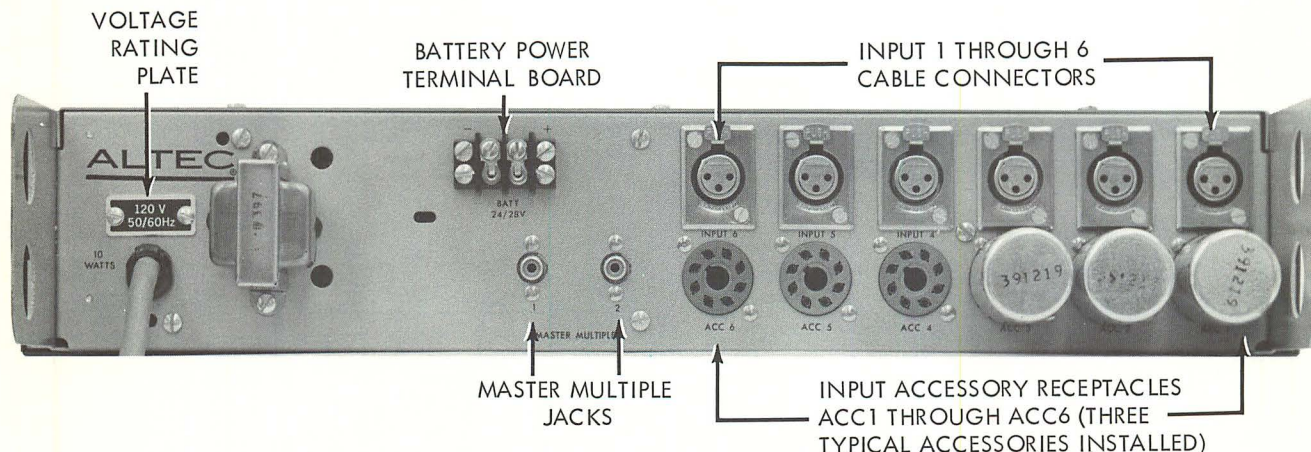
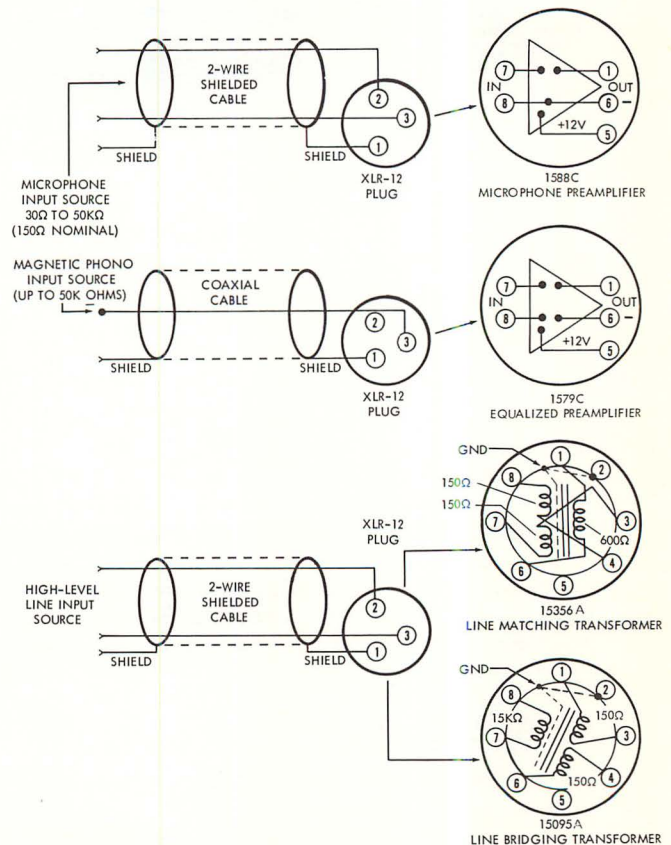

Figure 3. Rear View 1599A
Figure 5. Input Wiring for Various Applications
Equipment supplied for domestic use is provided with the power transformer primary strapped for 120 volts (terminals 1 to 2 and 3 to 4 on TB2). The power input nameplate, adjacent to the power cord on the chassis, is mounted to show the appropriate side specifying the connections (see Figure 3). Verify that line voltage is in accordance with the voltage rating before connecting to primary power.
- Step 4. Remove voltage-rating plate from chassis; reverse and re-install to show 240V rating (see Figure 3).
If desired, the 1599A may be connected to an external 24/28-volt battery with minus (-) as ground. The battery power terminal board is shown in Figure 3. If ac power fails,, transfer to dc power is instantaneous, automatic and silent.
Inputs to the mixer channels are connected on the chassis at connectors INPUT 1 through INPUT 6 (see Figure 3) with cables terminating in XLR3-12 type plugs. Appropriate internal wiring for these plugs is shown in Figure 5. Input for any channel may be microphone, magnetic phono or high-level line sources.
Two MASTER MULTIPLE output jacks (Figure 3) are provided for connecting the six outputs to a mixer or power amplifier. One shielded coaxial cable with a pin-tip phone plug connects the 1599A to the mixer or power amplifier. Either MASTER MULTIPLE output jack may be used.